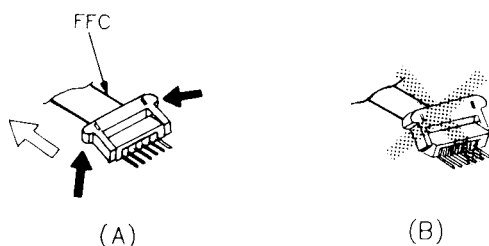

Fig. 4-15-2
3. When disconnecting the FFC6P and the FFC10P, refer to the disconnecting method shown in Fig. 4-15-2.
Don't pull the connector as shown in Fig. 4-15-2 (B). If pulled strongly in the direction to be opened, the cable will be damaged.